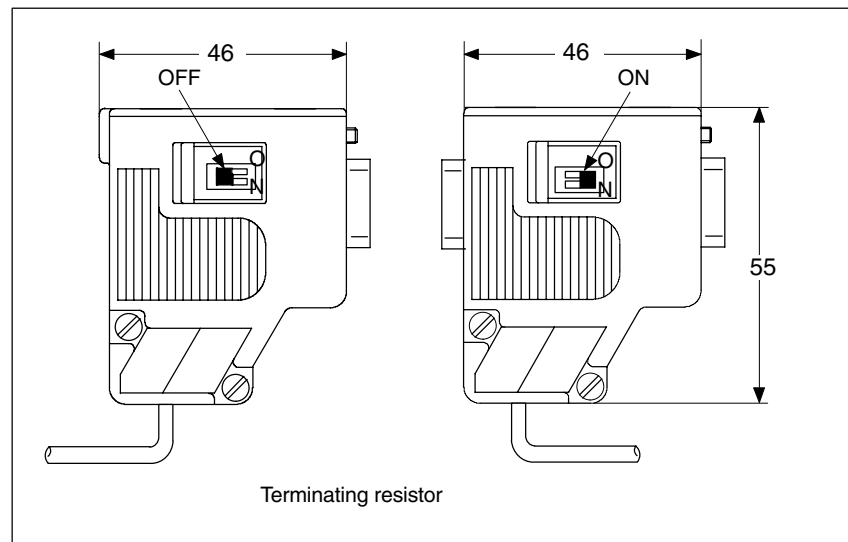

Fig. 2-3 MPI connector
2. The bus line must be terminated at **both ends**. To do this, enable the terminating resistor in the MPI connector of the first and last node and disable the remaining terminating resistors (see Fig. 2-3).